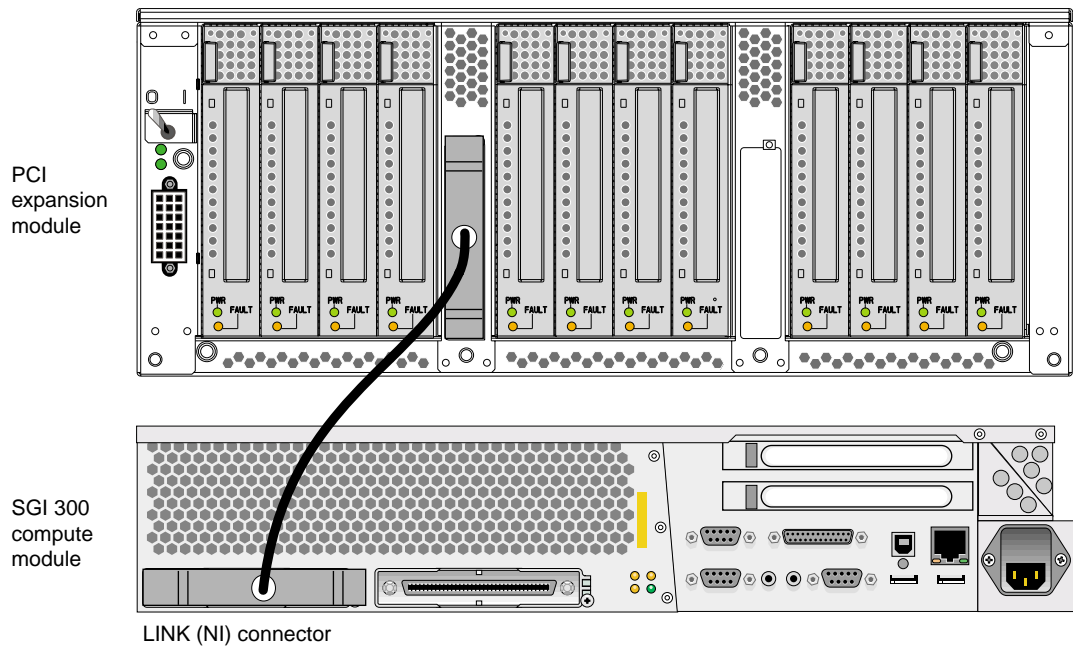

Figure 1-8 Cabling PCI Expansion Module to SGI 300 Compute Module
Cable the PCI expansion module to the LINK (NI) connector of an SGI 300 compute module that is within 8U of the PCI expansion module (see Figure 1-8).